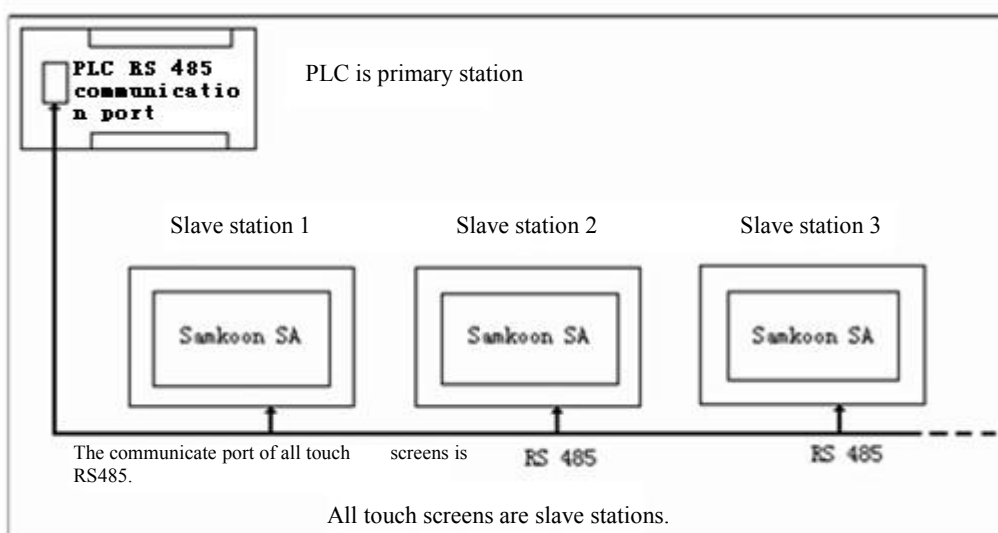

Figure 9-4 Schematic diagram of connection mode “One device with multiple screens” When PLC (RS485) is primary station
- The communication port connected with PLC is RS485 with connection mode as shown in figure 9-4.